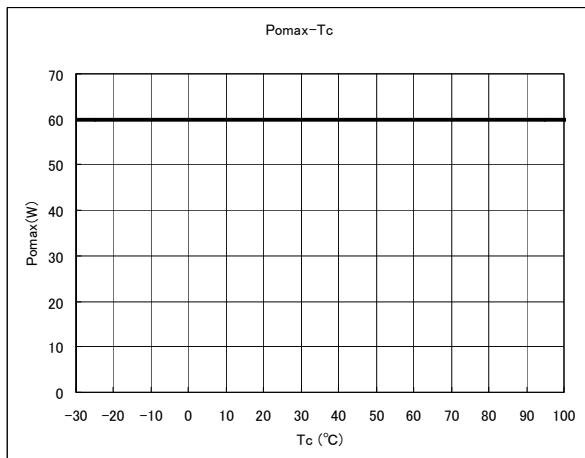
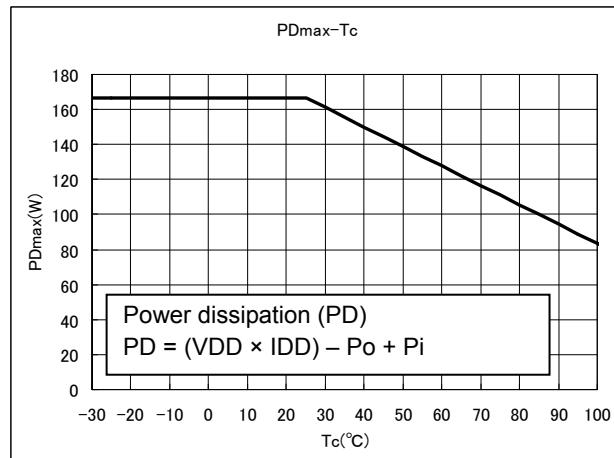

Figure.1 Pomax-Tc
Figure.2 PDmax-Tc
Note 2: The output power rating satisfies the range shown in Figures 1 and 2 according to the operating case temperature. Ensure that the device should be operated within the specified operating range. The figures below indicate the output power obtained 2 seconds after Po is generated.
*When the device is used at T_c = 100°C, the output power rating is 60 W as shown in Figure 1. When the power dissipation at T_c = 100°C exceeds the rating shown in Figure 2, the output derating is required to limit the dissipation within the specified range.
Note 5: The output power is intended to follow the rating provided in Figure 1 in Note 2.